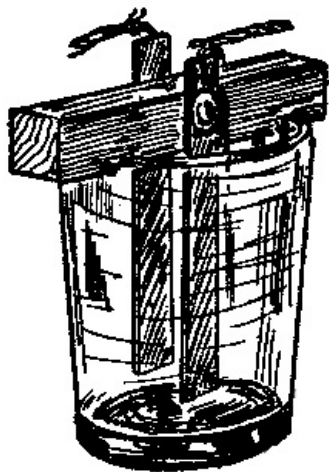

Fig. 6.
**7. Experimental Cell.** Fig. 6. In some experiments a comparison is made between cells with large plates and cells with small ones. This form will be convenient to use where narrow plates are desired. Those shown are  $4 \times \frac{1}{2}$  in. They are screwed to the cross-piece, which is  $4\frac{1}{2} \times 1 \times \frac{7}{8}$  in. Do not let the screws touch each other. The wires are fastened under the screw-heads.